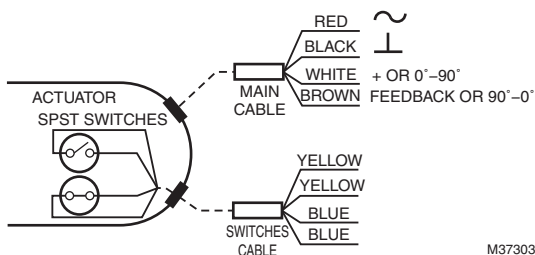

Fig. 10. Cable installation details.
Some models include Auxiliary switches. For wiring details see Fig. 10.
2. Connect power to power and common wire. (See Fig. 10 and Table 3.)
4. Apply control signal for actuator full open or full closed position. (See Fig. 10 and Table 3.)
- a. (0)2-10 VDC: apply 10 VDC signal to control wire (WHITE).
- b. 10-(0)2 VDC: apply (0)2 VDC signal to control wire (WHITE).
- c. (0)4-20 mA: apply 20 mA signal to control wire (WHITE).
- d. 20-(0)4mA: apply (0)4 mA signal to control wire (WHITE).
6. Apply control signal for actuator 0% position. (See Fig. 10 and Table 3.)
- a. (0)2-10 VDC: apply (0)2 VDC signal to control wire (WHITE).
- c. (0)4-20 mA: apply (0)4 mA signal to control wire (WHITE).